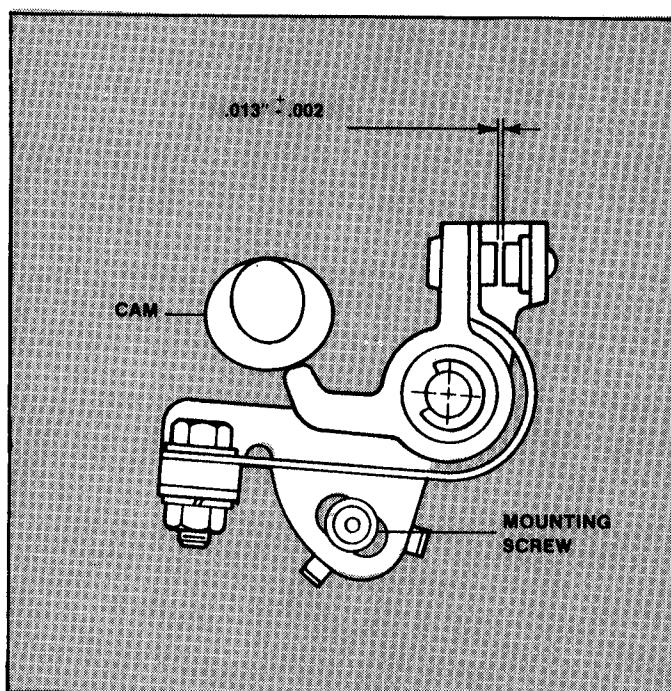

FIGURE 6.1
C. Adjust point gap to .011/.015 when point leg is located on high point of cam. See Figure 6.1.